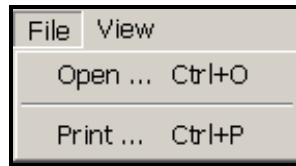

Figure 26. Database | Upload Reports | Import Report Dialog | File Menu
In Figure 26 , the **File** menu on the **Import Report** dialog has two (2) choices, which are discussed below.